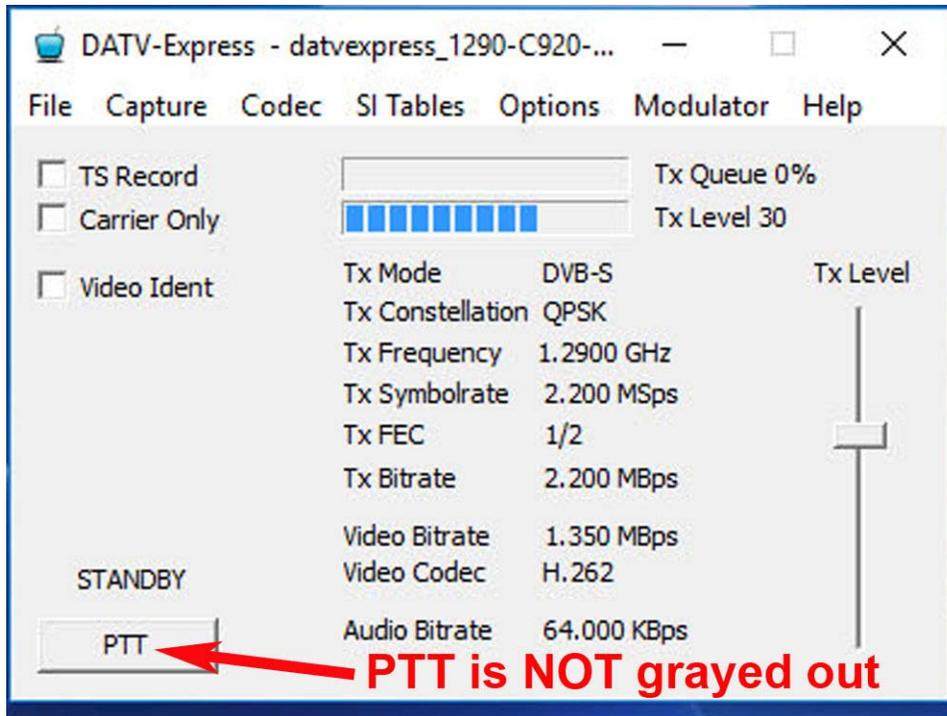

Figure 15 – The "NORMAL" MAIN screen confirms that Software is no longer running in DEMO Mode
- If you have already successfully completed the earlier steps in Sections 2.2.2 and 2.2.3, then the MAIN GUI screen in Figure 15 should be displayed with PTT button no longer “grayed out”.